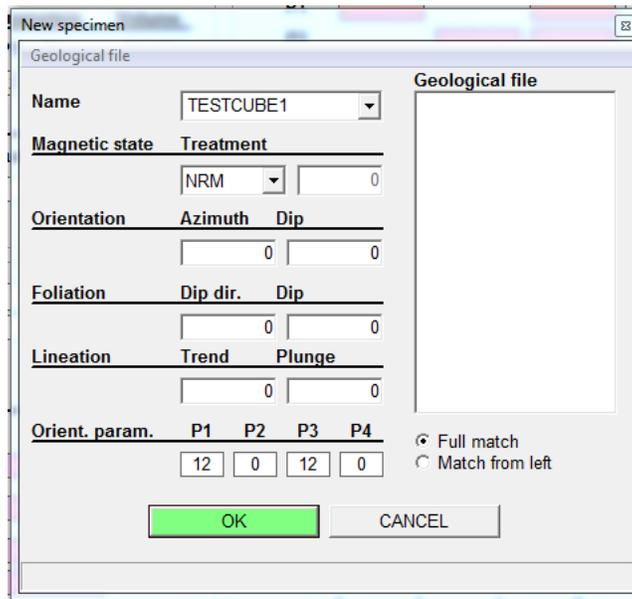

Figure 10: New Specimen dialog box.
4. This will prompt the New Specimen dialogue box to open (Figure 10). Type the name of the sample under Name (maximum 10 characters—will truncate after 10 characters in Remasoft3.0). If the Remasoft3.0 software will not be used and only the *.txt file will be utilized to analyze the data, then the name can be longer.
5. For hard rock samples that have been prepared as above, do not enter in anything under the Orientation fields (Figure 10).
6. For sediment where Japanese style cubes are being used, enter *Azimuth = 0* and *Dip = 90* in the *Orientation* fields (Figure 10). This will make the correction for the coordinate system discrepancy and report the data in the IODP reference frame under “geographic coordinates” in the data files.
7. Change the *Treatment* type to reflect the treatment the sample has most recently undergone (Figure 10).